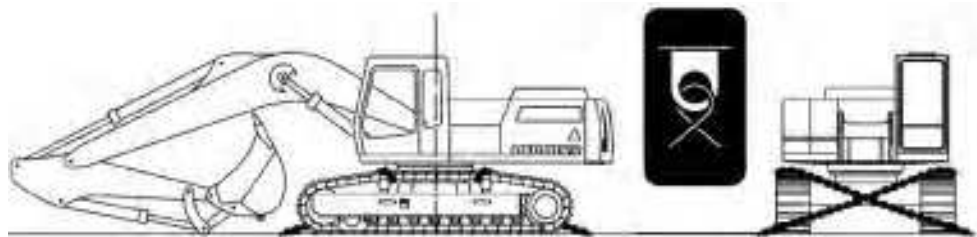

Fig. 3-142 To secure the machine
- ▶ Secure the machine at the points provided for the purpose using tension cables or tension chains (siehe Fig. 3-142). The loading points are identified on plate 45